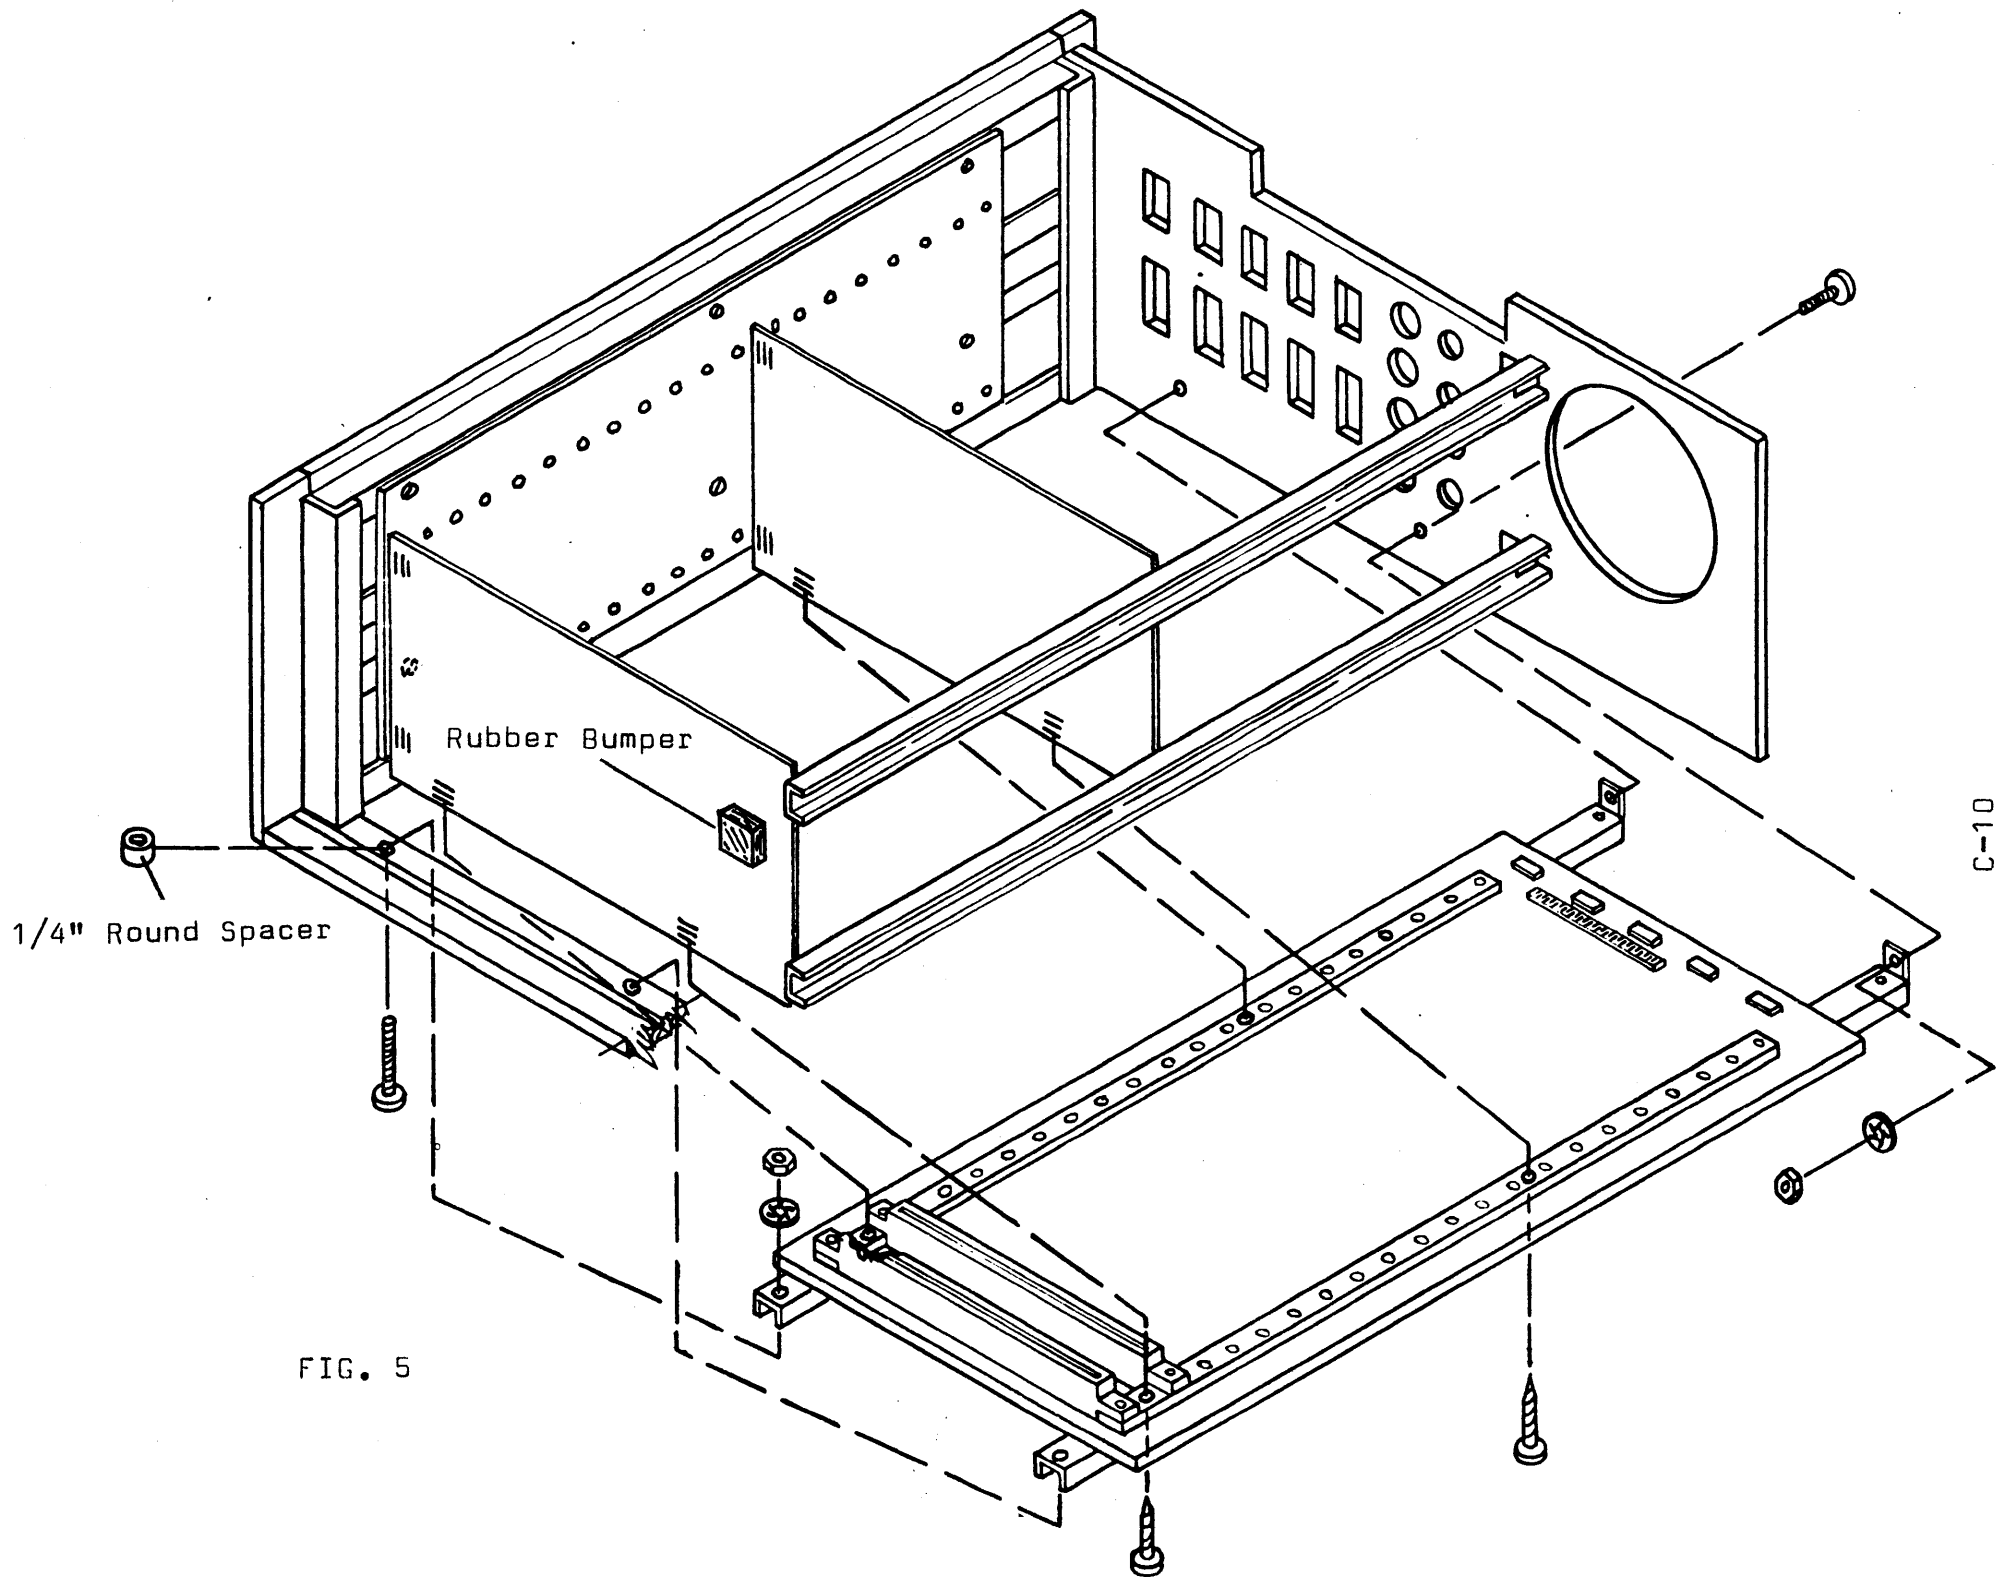

FIG. 5
- () Referring to Fig. 5, position the bus-board into the cabinet. The front support plate goes between the first and second edge connector locations on the bus-board. The front of each of the two bus-board extruded rails goes on top of the front lower rail of the cabinet.
- () Peel the backing paper from the rubber bumper. Position the bumper on the front support plate as shown in Fig. 5 and press it firmly in place.